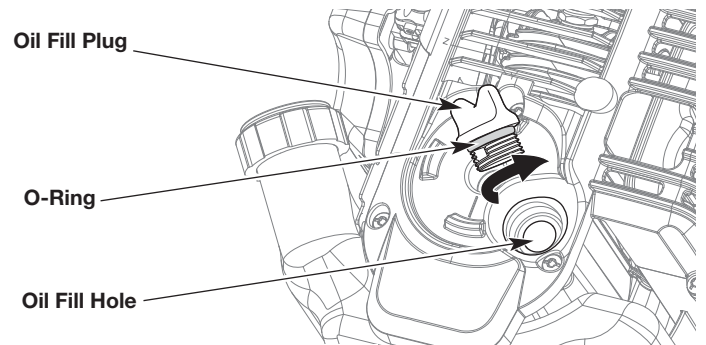

Fig. 21
3. Clean the area around the oil fill plug (Fig. 21) to prevent debris from entering the oil fill hole.
NOTE: Make sure the O-ring is in place on the oil fill plug (Fig. 21).
1. Clean the area around the oil fill plug (Fig. 21) to prevent debris from entering the oil fill hole.